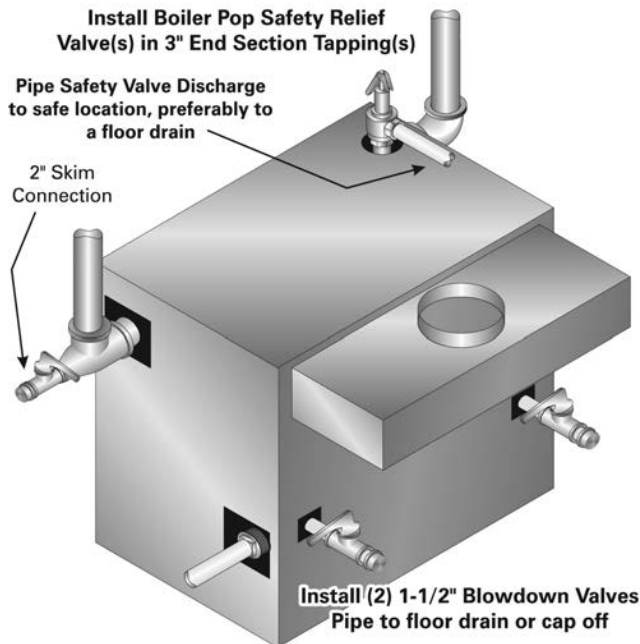

Figure 8.1: Blowdown Valve Piping
1. Install a 1-1/2" full port ball valve in each of the tapings provided at the lower back of the end sections. See Figure 8.1.